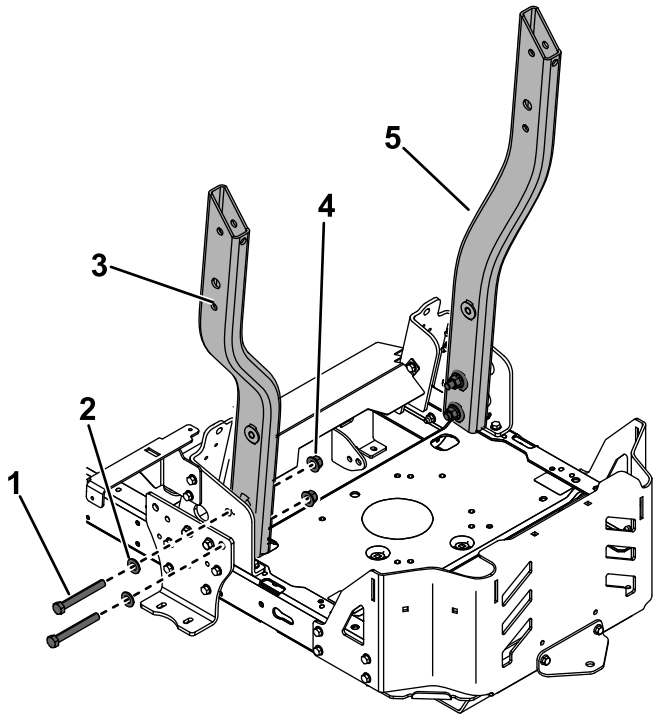

Figure 1
- Loosely install the left and right lower roll bar tubes using 2 bolts (1/2 x 4 inches), 2 washers, and 2 locknuts (1/2 inch) for each tube (Figure 1).